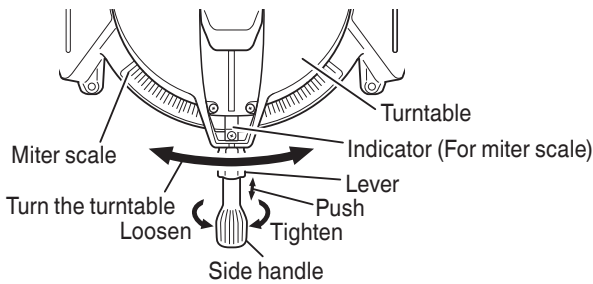

Fig. 17
- (1) Loosen the side handle and push the lever for angle stoppers. Then, adjust the turntable until the indicator aligns with desired setting on the miter scale (Fig. 17).
- (2) Re-tighten the side handle to secure the turntable in the desired position.